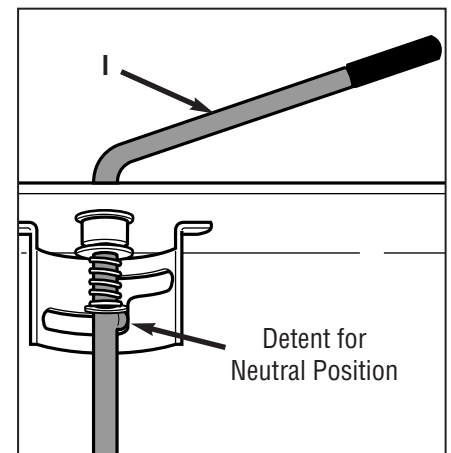

Figure 5-14: Lever in neutral (N) position.
2. Rotate shift rod (I, Figures 5-14 and
5. Move shift arm (X) back and forth as necessary into each detent until transmission is in neutral. NOTE: Moving shift arm (X) clockwise all the way to the left, and then one notch back counter-clockwise, should put transmission into neutral. When transmission is in neutral, unit will move freely when pushed while holding the Operator Presence Control lever down. If transmission is NOT in neutral, there will be a slight drag on the wheels when pushing unit.
6. When shift arm (X) is in neutral position, rotate shift link (P) until hooked end fits back into hole in bottom end of shift rod (I). NOTE: Shift rod (I) must be held in the neutral position (see Figure 5-14) while shift link (P) is adjusted.
7. Secure shift link (P) into shift rod (I) with cotter pin removed earlier.
8. Re-check neutral by pushing unit back and forth and shifting lever (I) from reverse to neutral. A small fine-tune adjustment may be required.